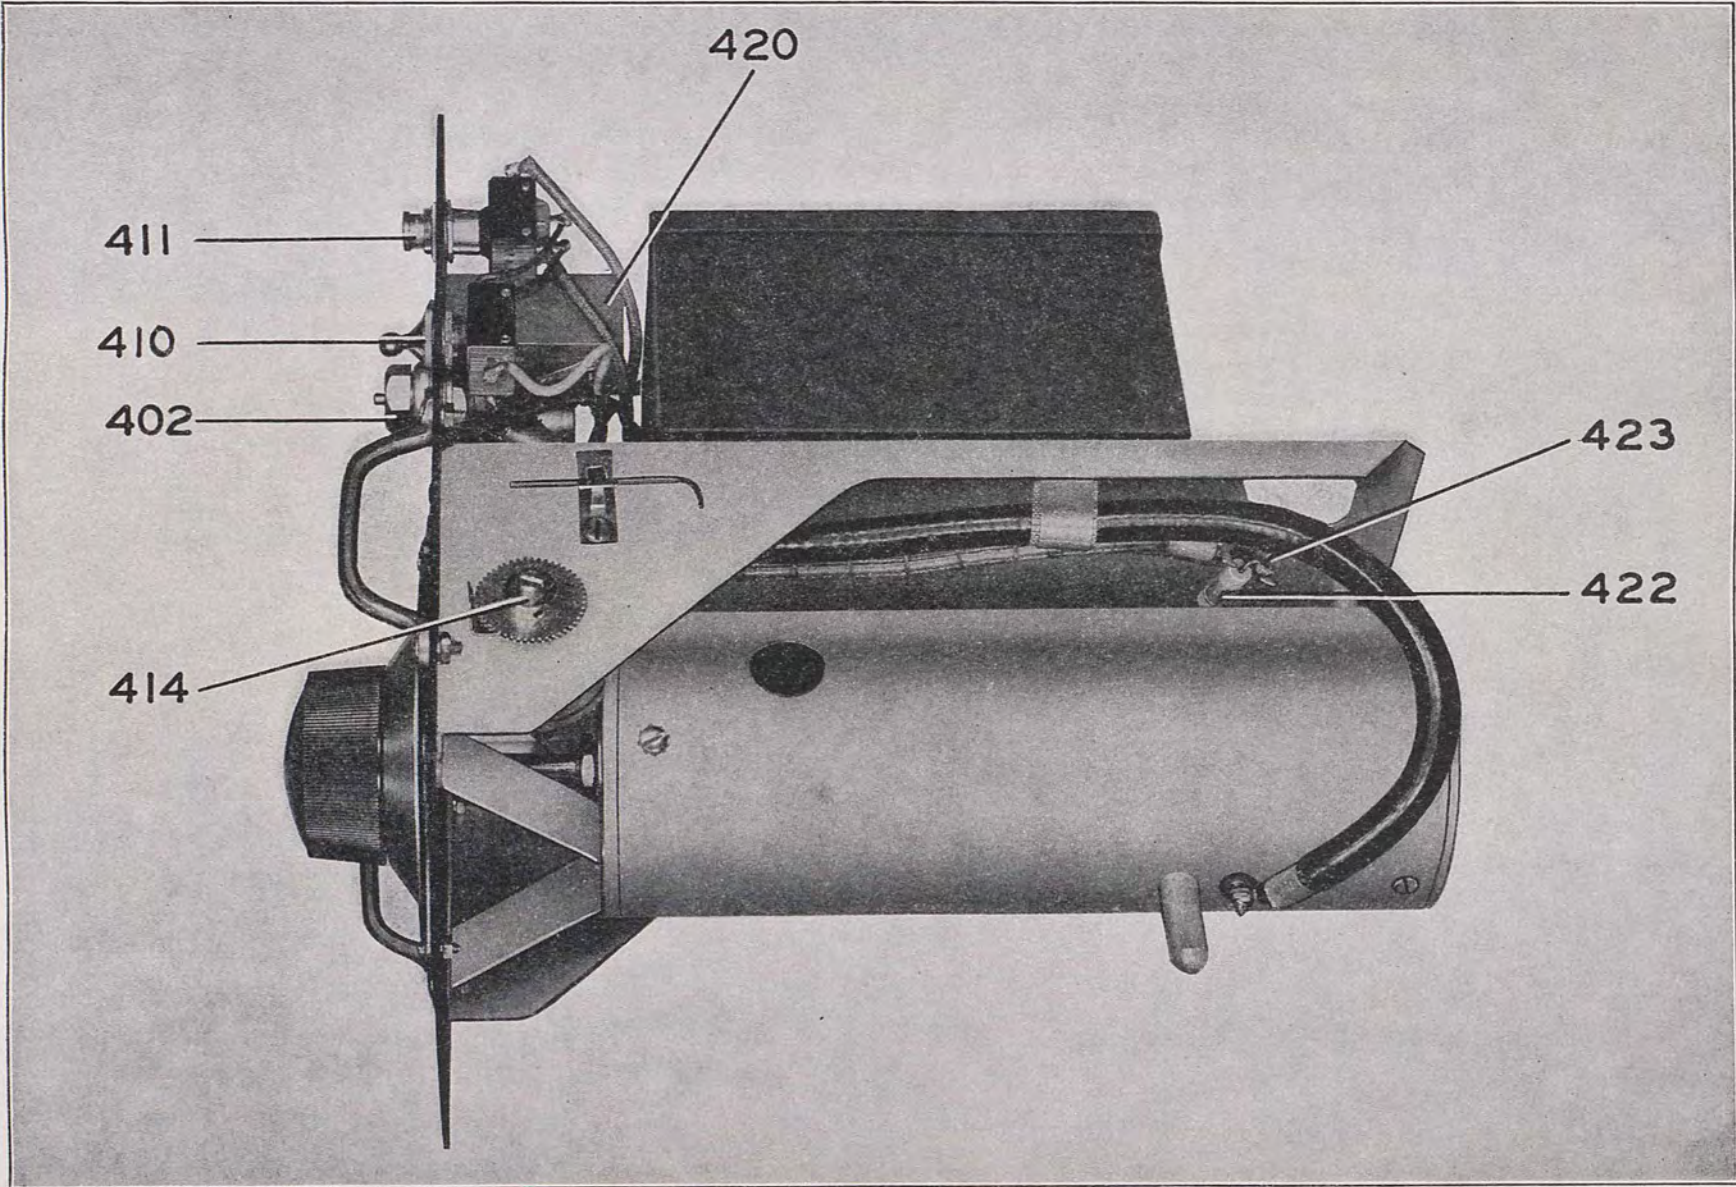

FIGURE 3—FREQUENCY METER BC-906-C, RIGHT-SIDE VIEW, CASE REMOVED
- b. Note Item 414 of Figure 3, a rheostat used as a shunt for the meter. This rheostat has a screw for screw driver adjustment. When the frequency meter is removed from its case, this adjusting screw can be seen by looking at the side of the frequency meter. With the frequency meter turned on, and with no signal input to the frequency meter, this screw should be adjusted so that a deflection of 450 is obtained on the meter.